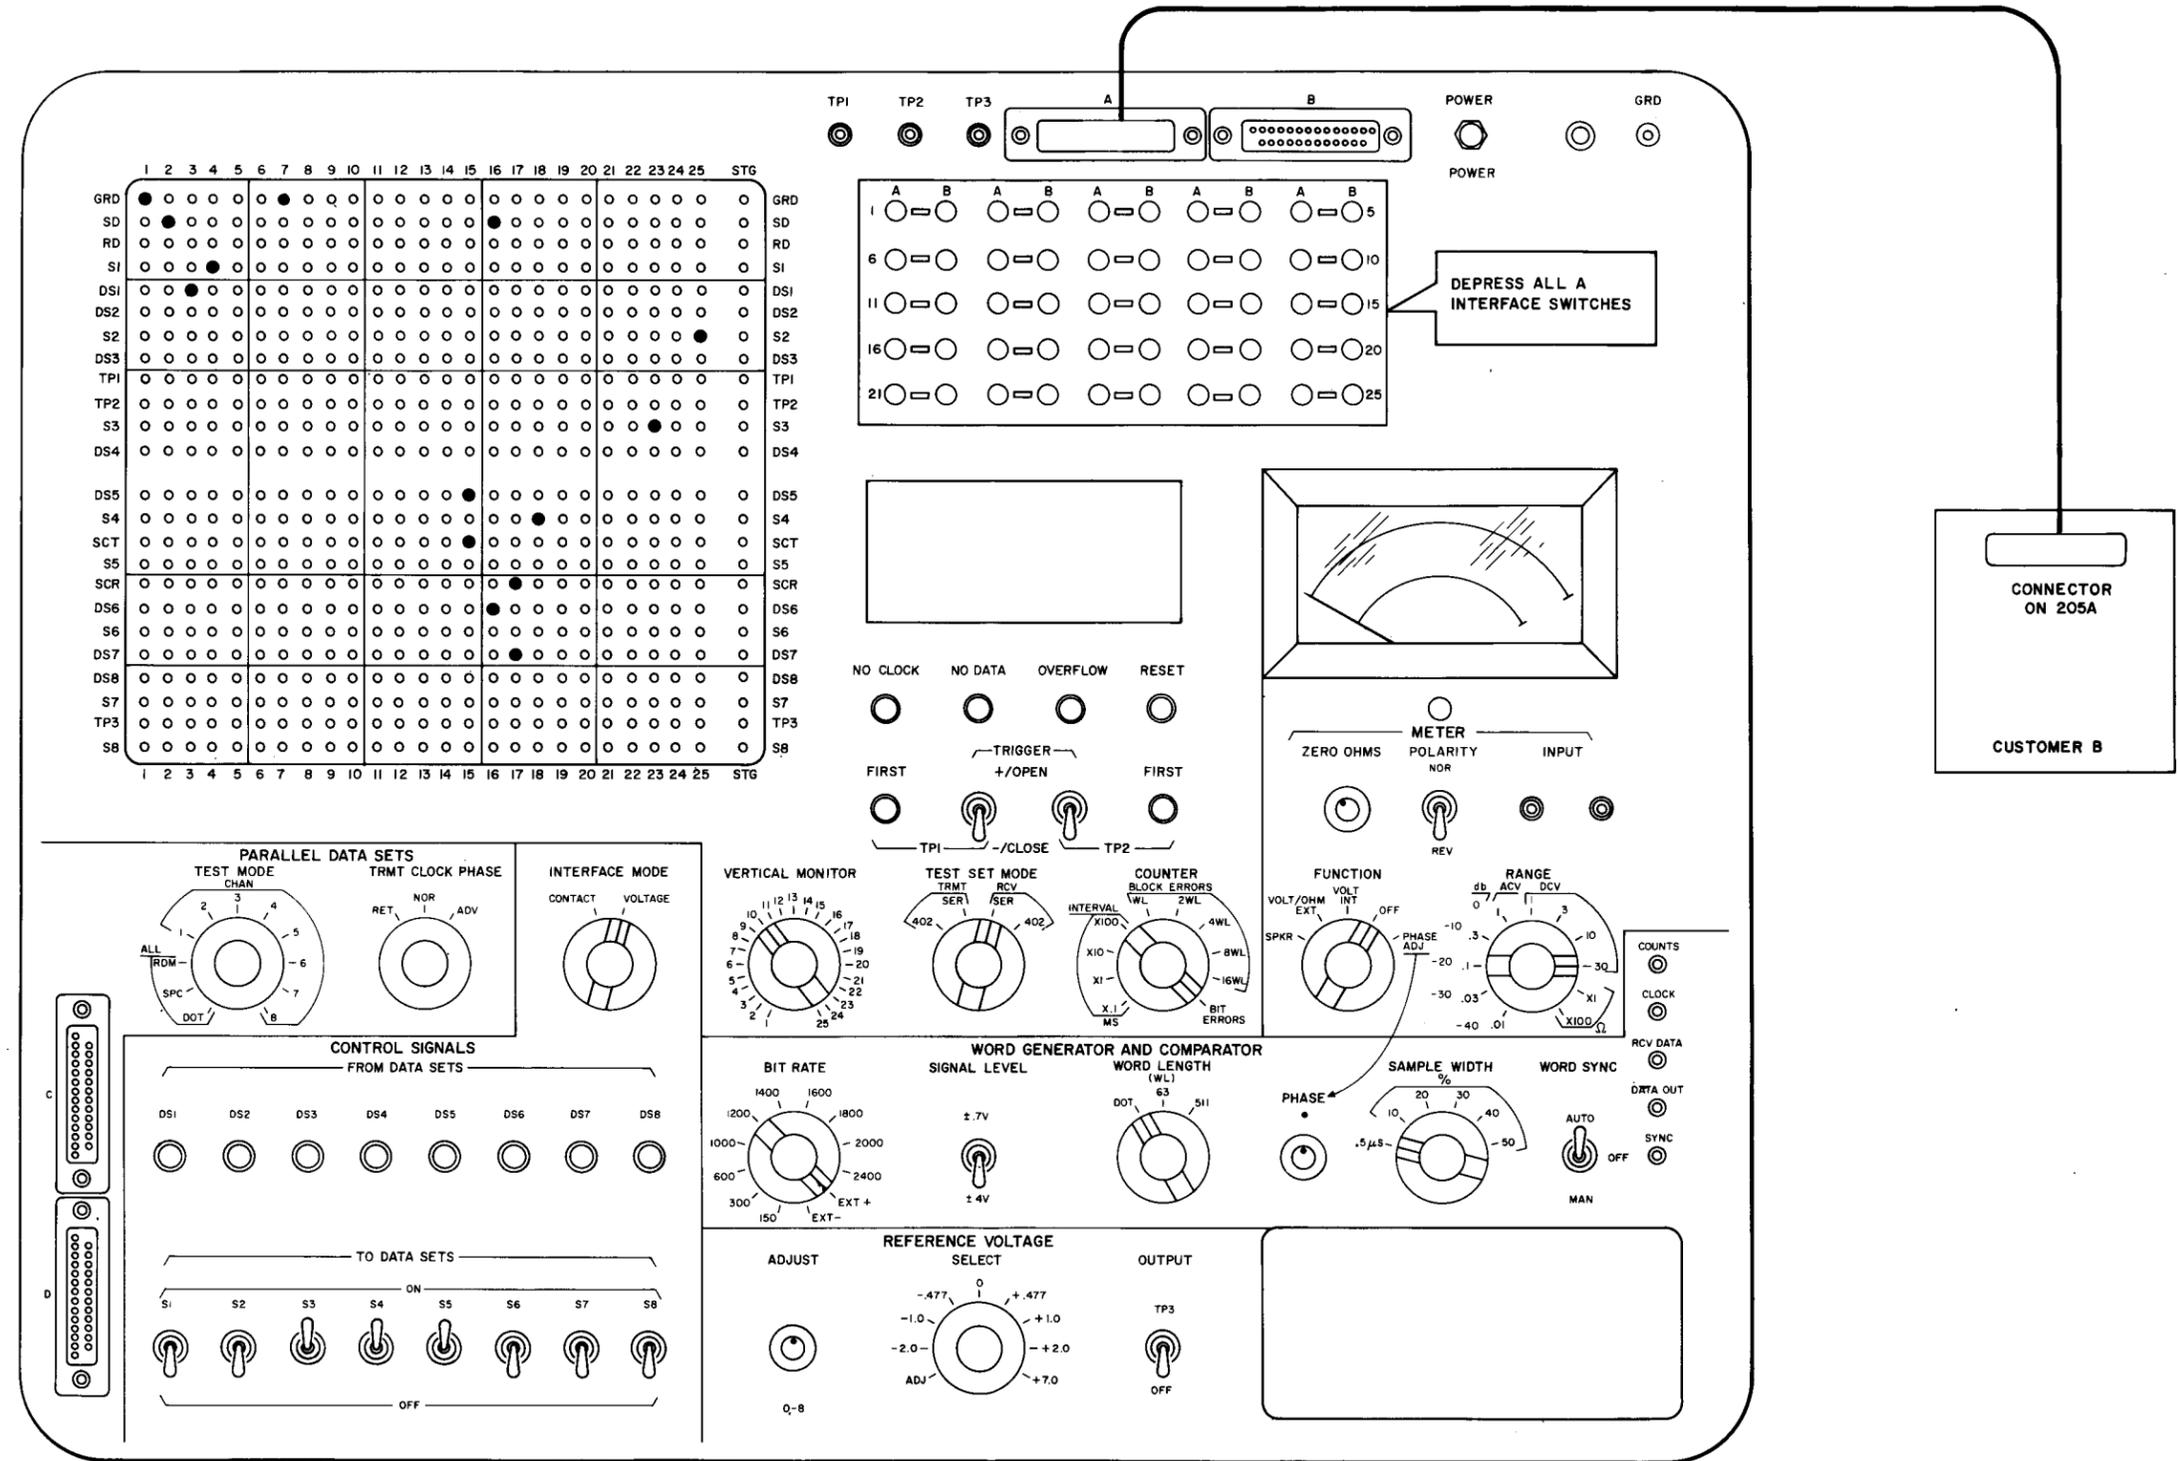

Fig. 1—914B Data Test Set Switch Positions
- (1) Disconnect the ac power cord, the TEL LINE, CUSTOMER A, CUSTOMER B, and the 4-WIRE connectors from DS 205A in the order given.
- (2) Strap terminal E1 to E2.
- (3) On TR-SW (019) card, place a strap between terminals 3 and 4 and remove strap between terminals 1 and 2 if card is not already strapped in this manner.
- (4) Connect the 4A1 Data Unit connector cord to the 4-WIRE connector.
- (5) Remove locking bar and place 4A1 in the TEST position.
- (6) Connect a cord from the CUSTOMER B connector on the data set to the A connector on the 914B DTS.
- (7) Set up the 914B DTS as shown in Fig. 1.
- (8) Plug the 914B DTS power cord into a 117-volt ac outlet and connect the ac power cord to DS 205A.
- (9) Operate FUNCTION switch to VOLT INT and the METER should indicate from -15.8 to -20.2 volts dc (negative power supply).
(10) Operate 914B switches as follows: